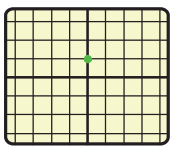

Figure 5.12a
- Figure 5.12a shows a reading of 1.5 V. Give the values displayed in **b**, **c** and **d**.